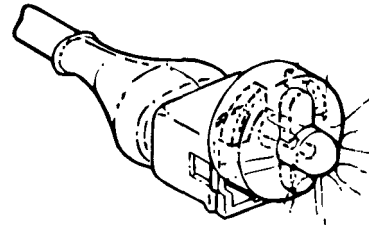

Fig. 17. Special LED test light connected across fuel injector connector for voltage test. Simple LED test light or digital VOM can also be used.
1. Disconnect a harness connector from an injector and connect to it an LED test light, an injector tester, or a digital voltmeter across the connector. See Fig. 17. When the engine is cranked, the LED should flash or the following voltage should be present: